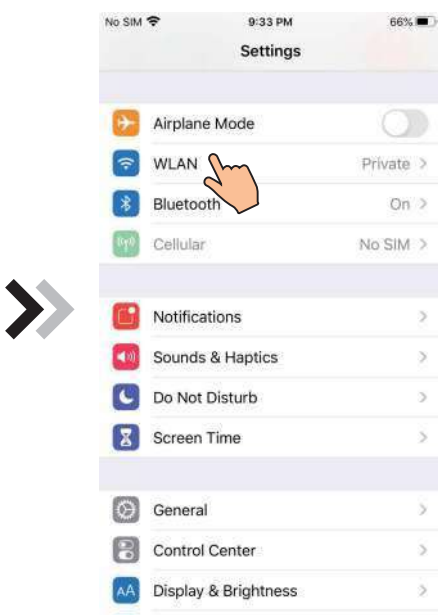
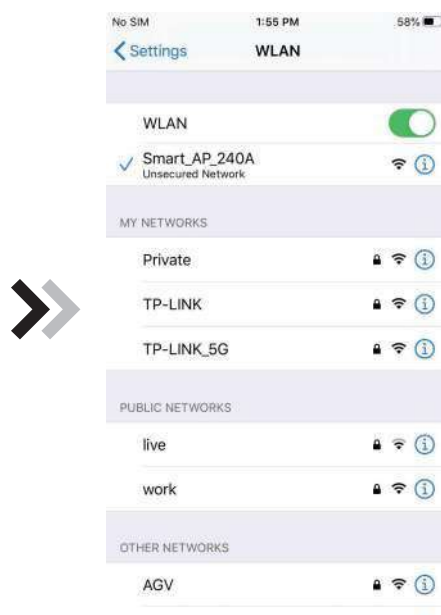

Fig.10 Setting interface
Fig.11 WiFi setting interface
2. Click ⑫ to enter the WiFi password for the current connection, click ⑬ to confirm;
3. Jump to system settings, connect specified WiFi, click ⑭ to select the “Smart_AP_xxx” , click ⑮ to popup window(Fig.10), follow the instruction and then jump to WiFi setting interface(Fig.11);